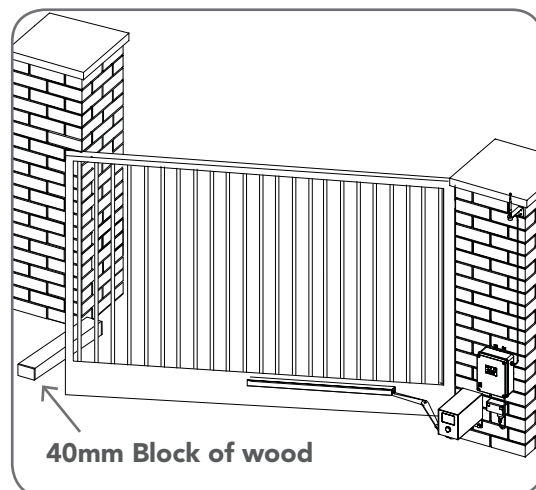

Fig 9.1
- Place a piece of timber approximately 40mm high on the ground directly next to the closing pylon / fence (**Fig. 9.1**).